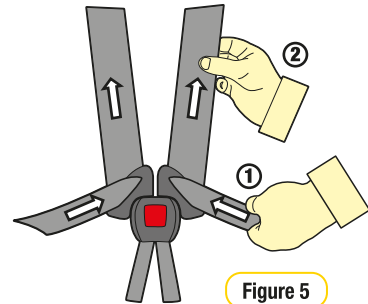

Figure 5
Step 5: Remove all of the slack for the harness lap straps by pulling shoulder straps (refer Figure 5), then pull the harness adjustment strap to adjust harness to a comfortable but firm fit (refer Figure 5 & 6).